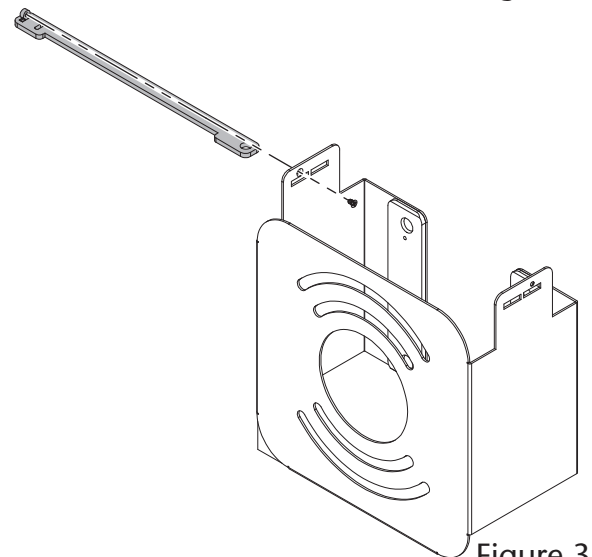

Figure 3
6. Remove the MacCuff Studio bracket from its packaging. Using a #1 Phillips screwdriver, remove the screw securing the locking bar to the bracket, remove the bar, and then set aside the screw, bar, and screwdriver (Figure 3).